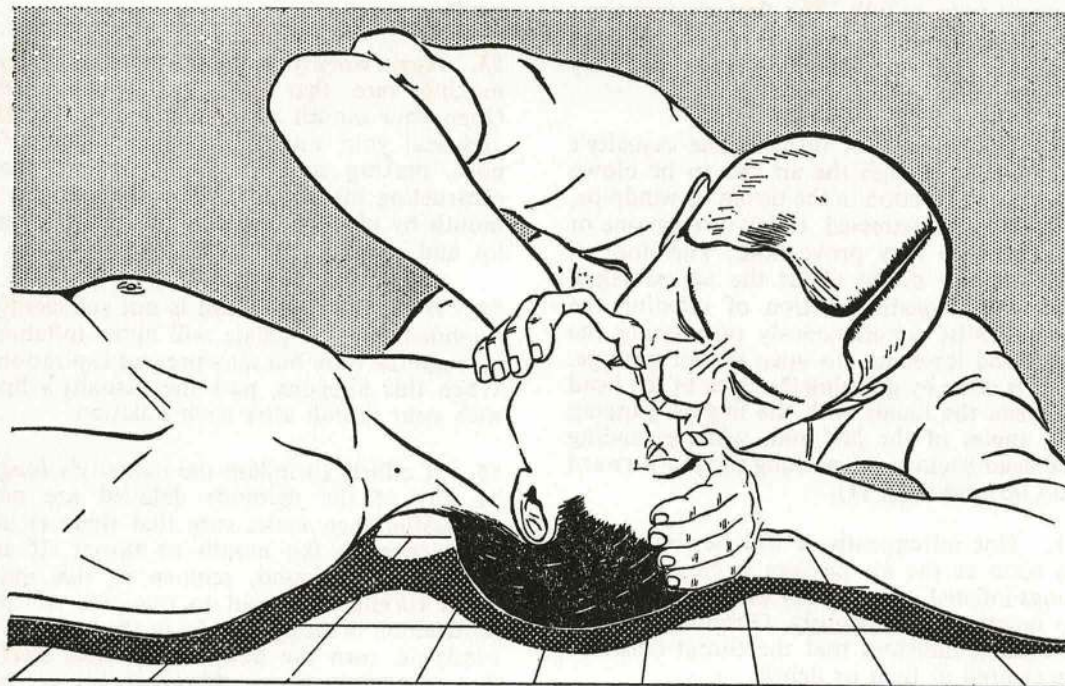

Fig. 12. MOUTH-TO-NOSE METHOD
53. Again work from the side of the casualty, making sure that his head is extended. Open your mouth wide, take a deep breath and seal your mouth round the casualty's nose, making sure that your lips are not obstructing his nostrils. Close the casualty's mouth by placing your thumb on the lower lip, and inflate his lungs (Fig. 12).